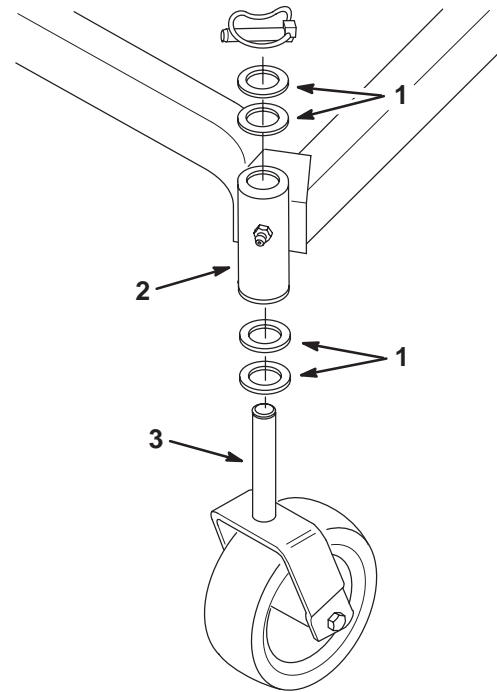

Figure 20
4. To change the front-to-rear pitch, move an equal number of thrust washers on both castor wheel forks. Move the thrust washers from the top of the carrier frame mounting tube to the bottom to raise the front of the mower. Move the thrust washers from the bottom of the mounting tube to the top to lower the front of the mower (Fig. 20).
4. To change the side-to-side leveling, move the thrust washers on one castor wheel fork only. Move the thrust washers from the top of the carrier frame mounting tube to the bottom to raise the corresponding side of the mower. Move the thrust washers from the bottom of the mounting tube to the top to lower the corresponding side of the mower. (Fig. 20).